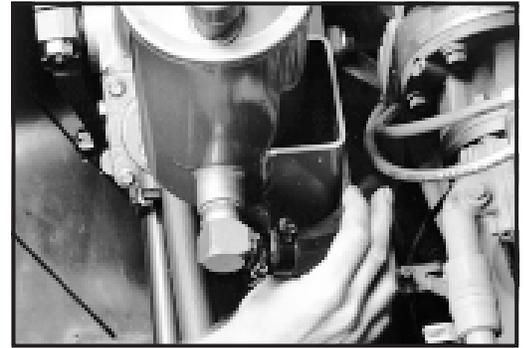

Figure 10.1
1. Look at the supply line that goes to the pump to check for kinking or any other obstructions or irregularities on the inside of the hose. *Figure 10.1.*